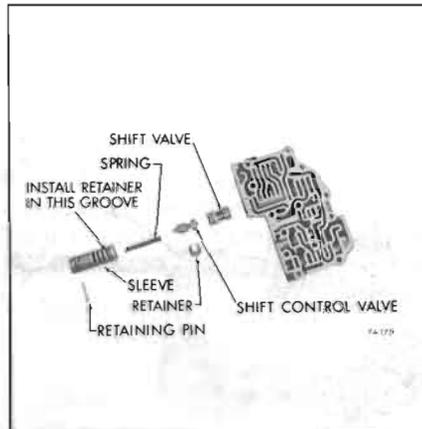

Figure 74-175
3. Install spring and shift control valve into sleeve. Depress spring and valve and insert retainer in groove as shown in Figure 74-175. Install shift valve and sleeve assembly.